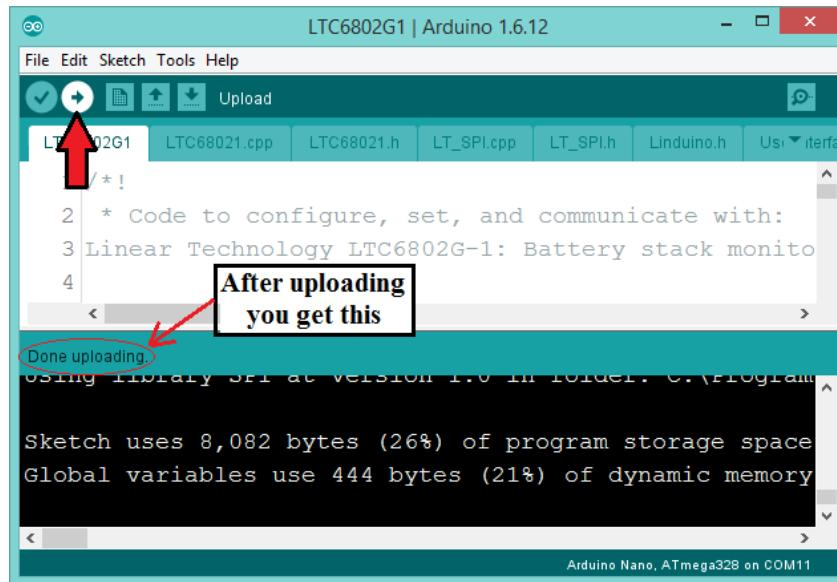

Figure 8: Uploading code to Arduino board.
4. Now we can upload the code on our board by clicking the 'upload' icon on the top-left corner of the Arduino window as shown in Fig.8.